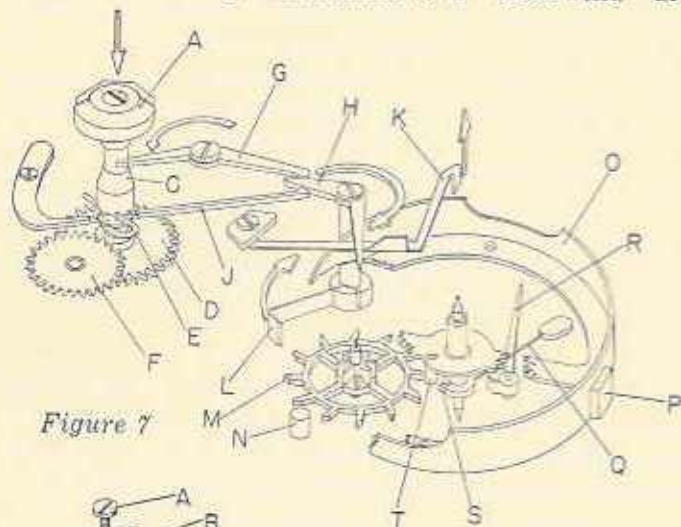

Figure 7
There is no winding mechanism but the setting mechanism is interesting and its functions are important. It is shown in Figures 7 and 8. Figure 7 shows a general schematic of the setting mechanism which automatically stops the balance in an open-circuit position and, at the same time, locks the indicating train. The hand-setting mechanism is a "back-wind" arrange-
The balance locking arrangement is related to the position of the arbor (C). In the cycle pictured in Figure 7, the balance and train are free to move. Notice the slanted part of the arbor and its upper neck and thicker lower diameter. In this sequence, the arbor lever (G) has its left arm resting against the thin part of the arbor and its right arm resting against the locking lever (H). The lever spring (J) maintains its tension so that, through the locking lever, the arbor lever's left arm is always pressed against the arbor. The locking lever (H) is locked to its arbor and pivots with it. The upper part of this arbor has its right wing hold down the tension of the balance stop spring (K). The lower extremity of this arbor has a train-locking arm (L) which is shown clear of the teeth of the wheel (M).